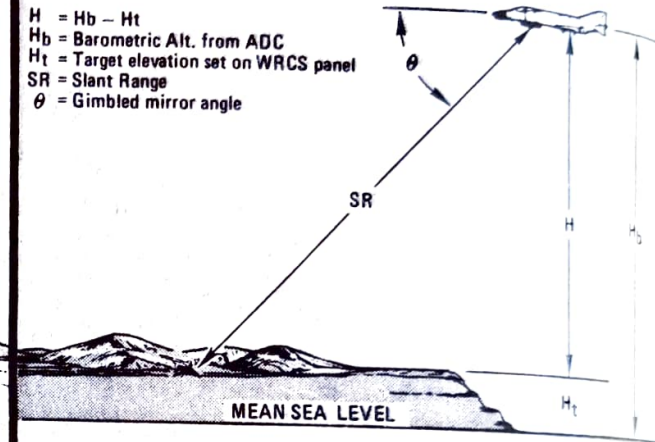

Figure 27, Slant Range Computation
(1) Horizontal triangle. The interface with the INS and WRCS is combined with a pickoff of pod gimbal angles to make the triangle solution possible (Figures 27 & 28). The position of the point being tracked ( $D_N$  and  $D_E$ ) is updated in the WRCS computer continuously; therefore, the position of the point being tracked is known by the WRCS computer. This is essentially the same as the freeze function, since the position of the point of interest is continuously monitored. This feature is used in the VOAP acquisition and the Memory mode. The angle  $B$  is displayed on the Horizontal Situation Indicator (HSI) and BDHI to provide steering to the point of interest.